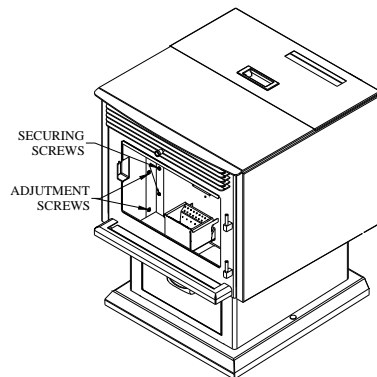
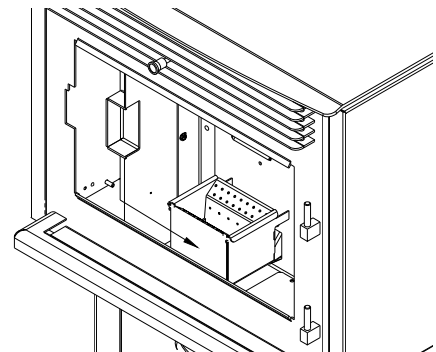
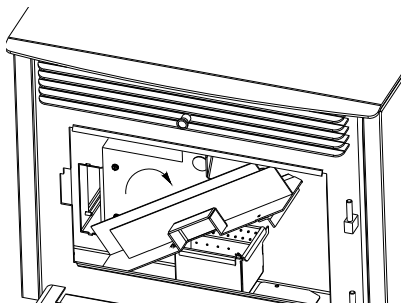
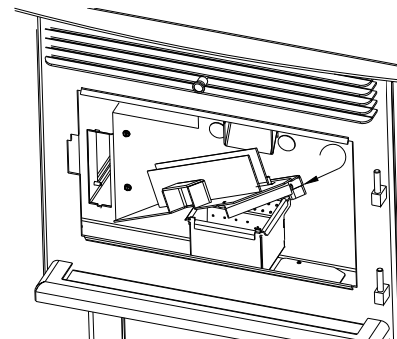

Figure 21
Figure 22
Figure 23
Figure 24
- Chamber walls:** Periodically, you must vacuum the ashes that may have accumulated on the main walls of the combustion chamber. **START BY REMOVING THE DECORATIVE MASONRY-LIKE PANELS, WHICH ARE SIMPLY HELD BY CLIPS.** The use of a vacuum is necessary. There is also a cleaning outlet located behind the left side panel of the combustion chamber. Remove this panel using a screw driver. Loosen the adjustment screws then remove the securing screws(Figure 21). Slide the wall toward right(Figure 22), tilt it (Figure 23) then remove it from the combustion chamber. Scrape off ashes. You will notice a small rectangular cleaning outlet. Inspect behind this outlet (see Figure 24) Insert the vacuum tip through the cleaning outlet and clean thoroughly. **REPEAT THIS OPERATION AT LEAST ONCE PER TON OF PELLETS BURNED UNTIL YOU ARE FAMILIAR WITH HOW ASHES ACCUMULATE WITH YOUR OPERATING PRACTICES.**